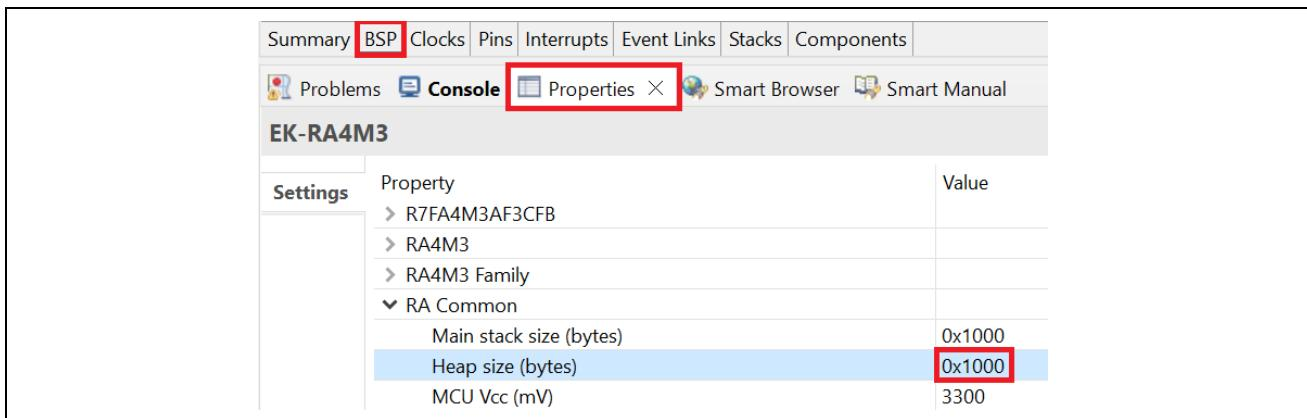

Figure 26. Update the Heap size to 0x1000
3. Navigate to the BSP tab in `ra_mcuboot_ra4m3_swap_enc_qspi\configuration.xml` and update the BSP heap size from `0x600` to `0x1000` as illustrated in Figure 26. When encryption is used, a minimum of `0x200` heap needs to be added. This increased heap usage came from the added AES algorithm usage.